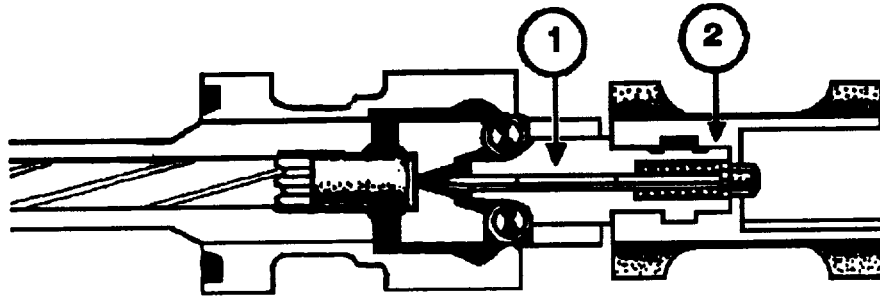

Figure 2-5. Bolt In The Unlocked Position
e. Unlocking. When the cartridge is fired, gas pressure exerts a thrust on the bolt head face. The bolt head carrier (1), Figure 2-5, carries the bolt to the rear to unseat and compress the locking rollers. The balanced angular ratio of the locking piece (2), and the locking rollers causes a delayed recoil movement of the bolt head, thus guaranteeing that the bolt keeps the barrel locked until the bullet has left the muzzle. The bolt head carrier continues rearward until it contacts the face of the hammer, forcing the hammer to cock and the recoil spring to be compressed.